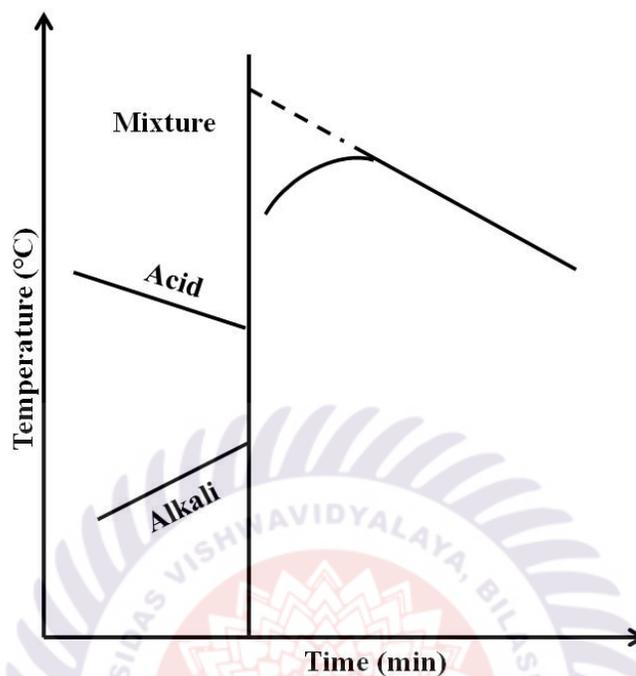

Figure 2.2: Plot of temperature versus Time
3) Prepare ~ 2 (M) NaOH by dissolving 85 g NaOH in 1 litre.
4) Standardise the NaOH solution against oxalic acid and prepare exact 1 (M) 250 mL NaOH.
5) Prepare nearly 2 (M) HCl by diluting 50 mL concentrated HCl to 250 mL and standardize it by titrating against standard 1 (M) NaOH.
6) Prepare exact 1 (M) 250 mL HCl by proper dilution. Recheck it by titrating against standard NaOH solution.
7) Take 100 mL 1 (M) HCl in calorimeter and record the temperature after every half minute for five minutes. Repeat the procedure for 100 mL 1 (M) NaOH and plot the temperature time curve for both the experiments
9) Plot a graph between temperature and time (Figure 2.2).